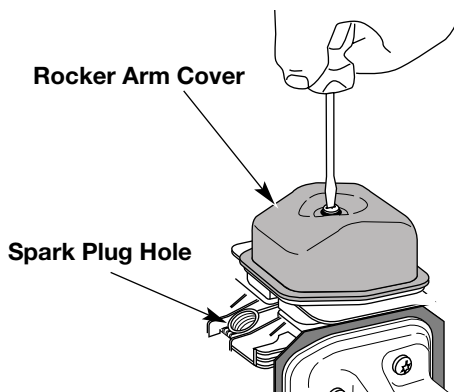

Fig. 52
7. Clean dirt from around the rocker arm cover. Remove the screw holding the rocker arm cover with a large flat blade screwdriver or Torx T25 bit (Fig. 52). Remove the rocker arm cover and gasket.
- The piston is at the top of its travel while looking in the spark plug hole (Fig. 52).